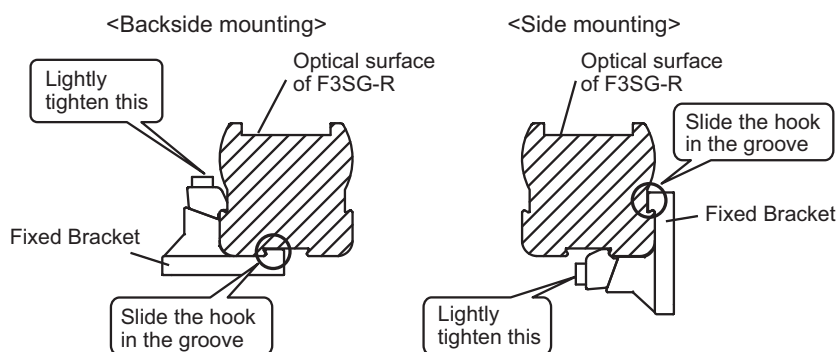

Fig. 2
2. Slide the hook of the Fixed Bracket (1) in the groove of the F3SG-R housing. Lightly tighten the hexagon socket head cap screw (M3 x 15). (Fig. 2)